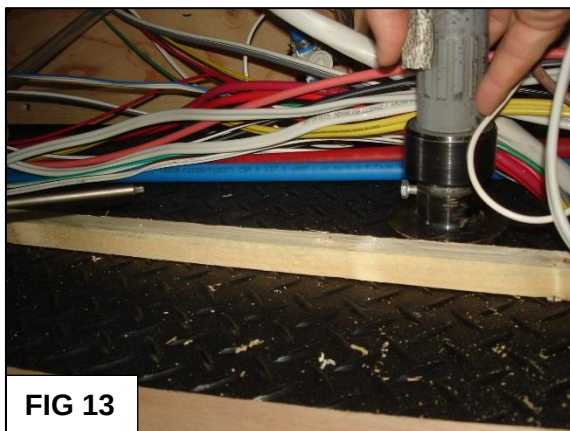

FIG 13
- FIG 13:** Route the 5" x 5" hole in the floor where the pump was mounted (**Fig 10** - dashed lines)